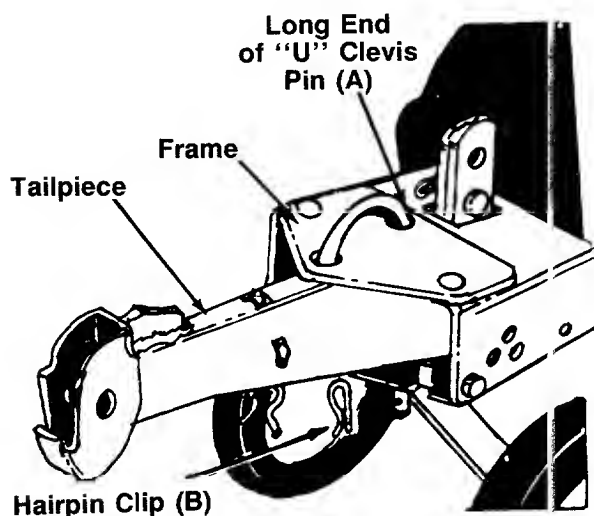

FIGURE 2.
Slide the tailpiece into the chassis. Secure with "U"-clevis pin (A) and hairpin clip (B). See figure 2.